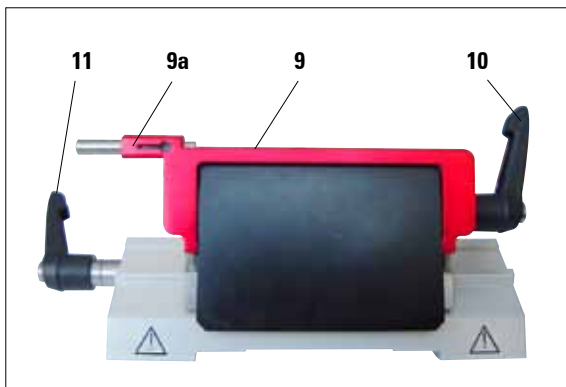

Fig. 6
The knife guard on knife holder E consists of a red foldaway handle with ejector (9a). To cover the cutting edge, fold the knife guard handle (9) upwards as illustrated in Fig. 6.